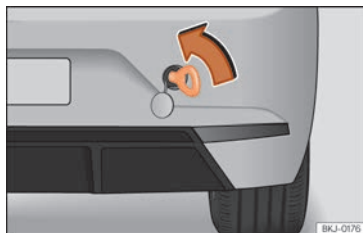

Fig. 159 Right side of the rear bumper: towline anchorage screwed in.
- Screw the towing eye in the housing by turning it to the maximum **anticlockwise** >>> Fig. 159 , >>> page 251. Use a suitable object that can completely and securely tighten the towing eye in its housing.